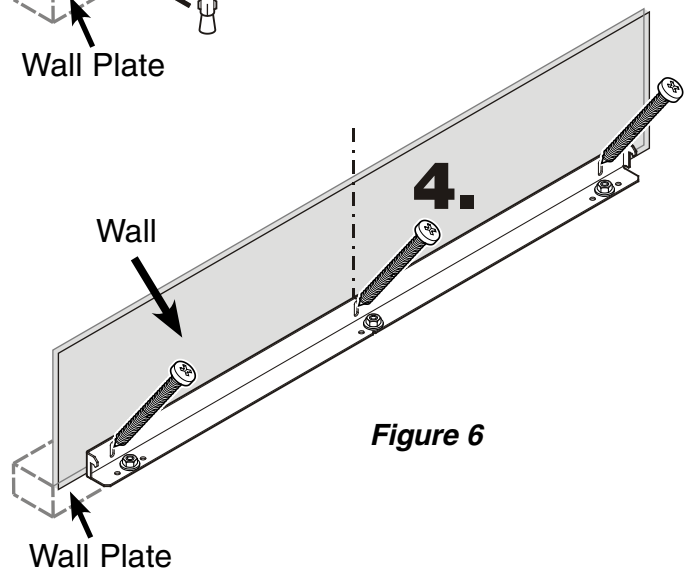

Figure 6
4. Fasten bracket with 3 screws (1/4" x 2-1/8") into the wall plate (**Figure 6**).